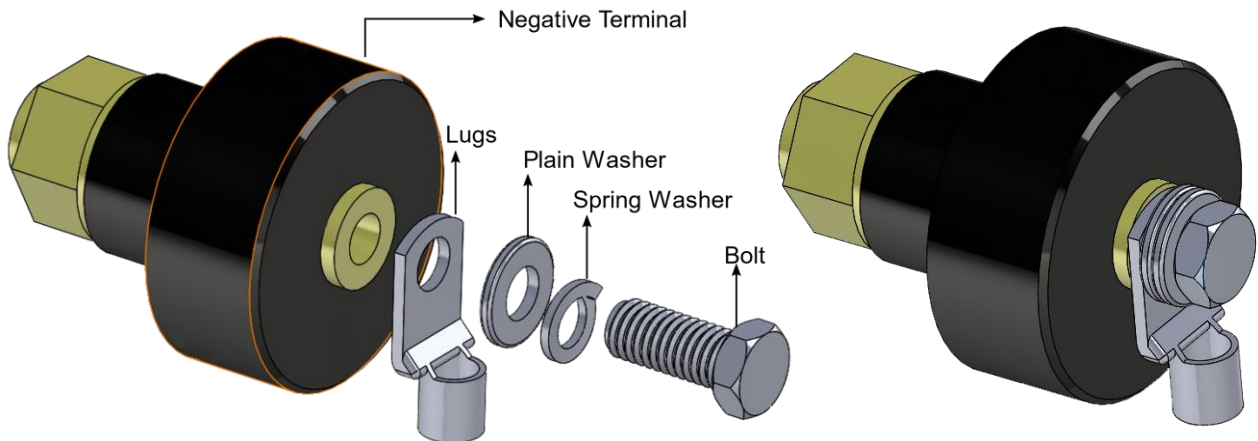

Figure 1. Connecting washers, lugs and bolts to negative terminal of Module
1. Connect all Modules in series. See figure 1 for wiring layout.